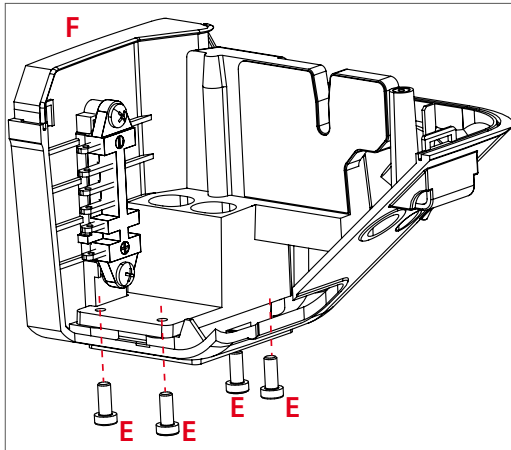

Figure 4.16 Docking station - Docking station heat sink assembly
1. Use the four M4 x 6 fasteners [E] to mount the heat sink to the docking station [F] (Fig. 4.16)